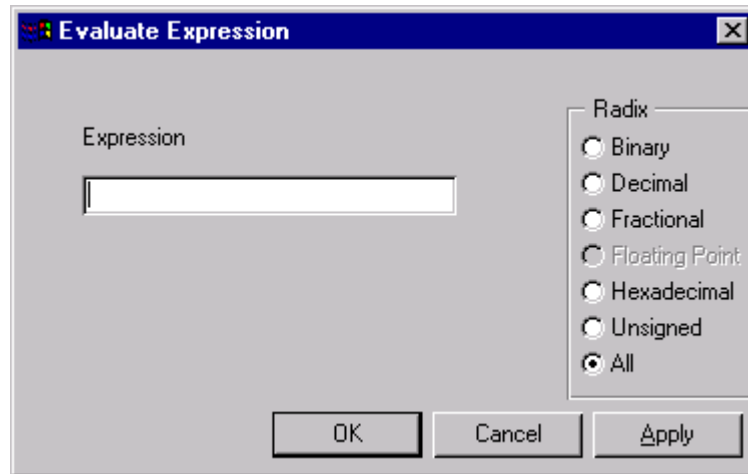

Figure 10-1. Evaluating an Expression
1. From the **Display** menu choose **Evaluate**. The dialog box in Figure 10-1 appears.